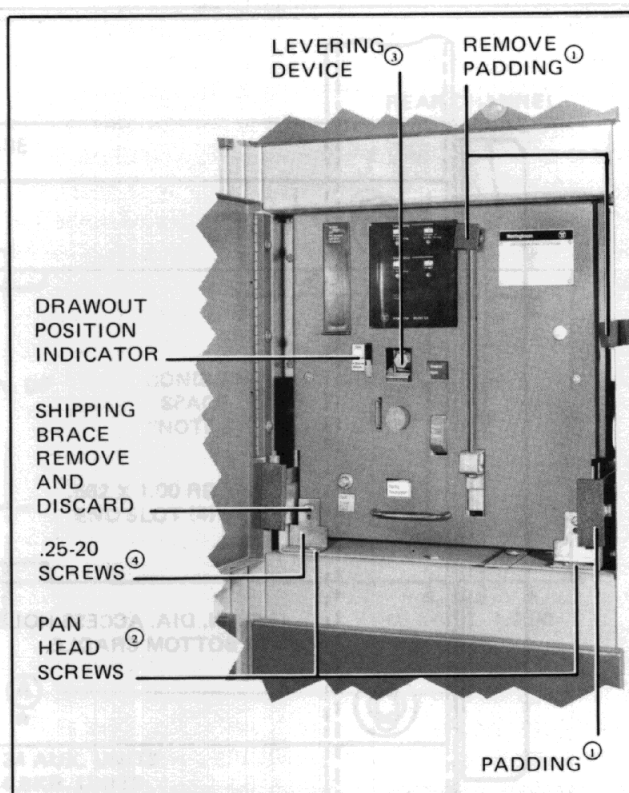

Fig. 25 Front View of Type DS-416 Breaker Shipped in Compartment (390896)
Each unit is fastened to the floor channels by either bolting or welding as shown in Fig. 25. If bolting is to be used, the mounting bolts must be placed in the floor steel before the concrete is poured to assure that the tapped holes will not fill with concrete. Welding is a quick and easy method of securing the switchgear assembly in place and eliminates the layout of the mounting holes in the channels.
Before the circuit breaker element can be withdrawn from its compartment for the first time, the shipping braces must be removed from the lower part of the breaker front panel. Refer to Fig. 25. During shipment, the front wheels of the breaker are lifted approximately 1/16 inch above the compartment rails; and the unit is held part way between disconnected and test positions by means of its levering device.
**NOTE:** Step numbers below correspond to numbers on Figs. 25 and 26.
1. Remove the sponge rubber padding and tape from the compartment rails and the knob on the top of the spring charging handle. (Shown in Fig. 25.)
2. With a screwdriver, remove the two (2) outside .25-20 pan head screws from the bottom leg of the shipping braces. Do not discard, as later they will be returned to their tapped holes. Do not remove the center screw.